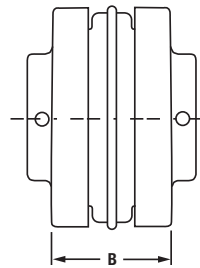
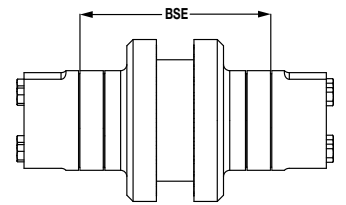

Figure 1 - B Dimension
Figure 2 - BSE Dimension
3. Position the flanges to dimension "B" shown in Table 1, (for spacer flange position to dimension "BSE"). For close-coupled D-Flex couplings (Type J, Type S and Type B), position flanges to dimension "B" (Figure 1) as shown in Table 1. For Type SC spacer couplings, position to desired between shaft end, or "BSE" dimension (Figure 2).